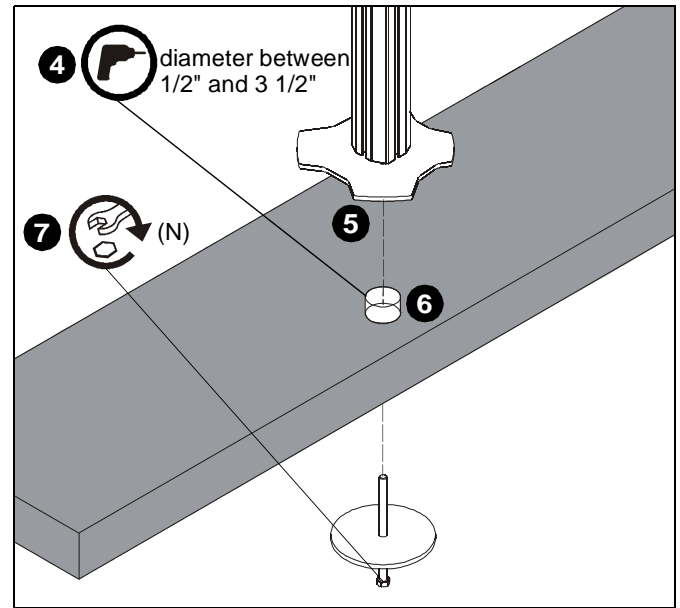

Figure 7
4. If a hole doesn't already exist, drill a hole in desk with a diameter between 1/2" and 3 1/2" at desired mounting location. (See Figure 7)
5. Position mount on desk so that center hole of grommet plate (P) is centered over grommet hole. (See Figure 7)
6. Insert grommet screw (N) through grommet hole and thread into center hole of grommet plate (P). (See Figure 7)
7. Tighten grommet screw (N) until grommet base is tightened against underside of desk and mount is securely mounted to desk. (See Figure 7)